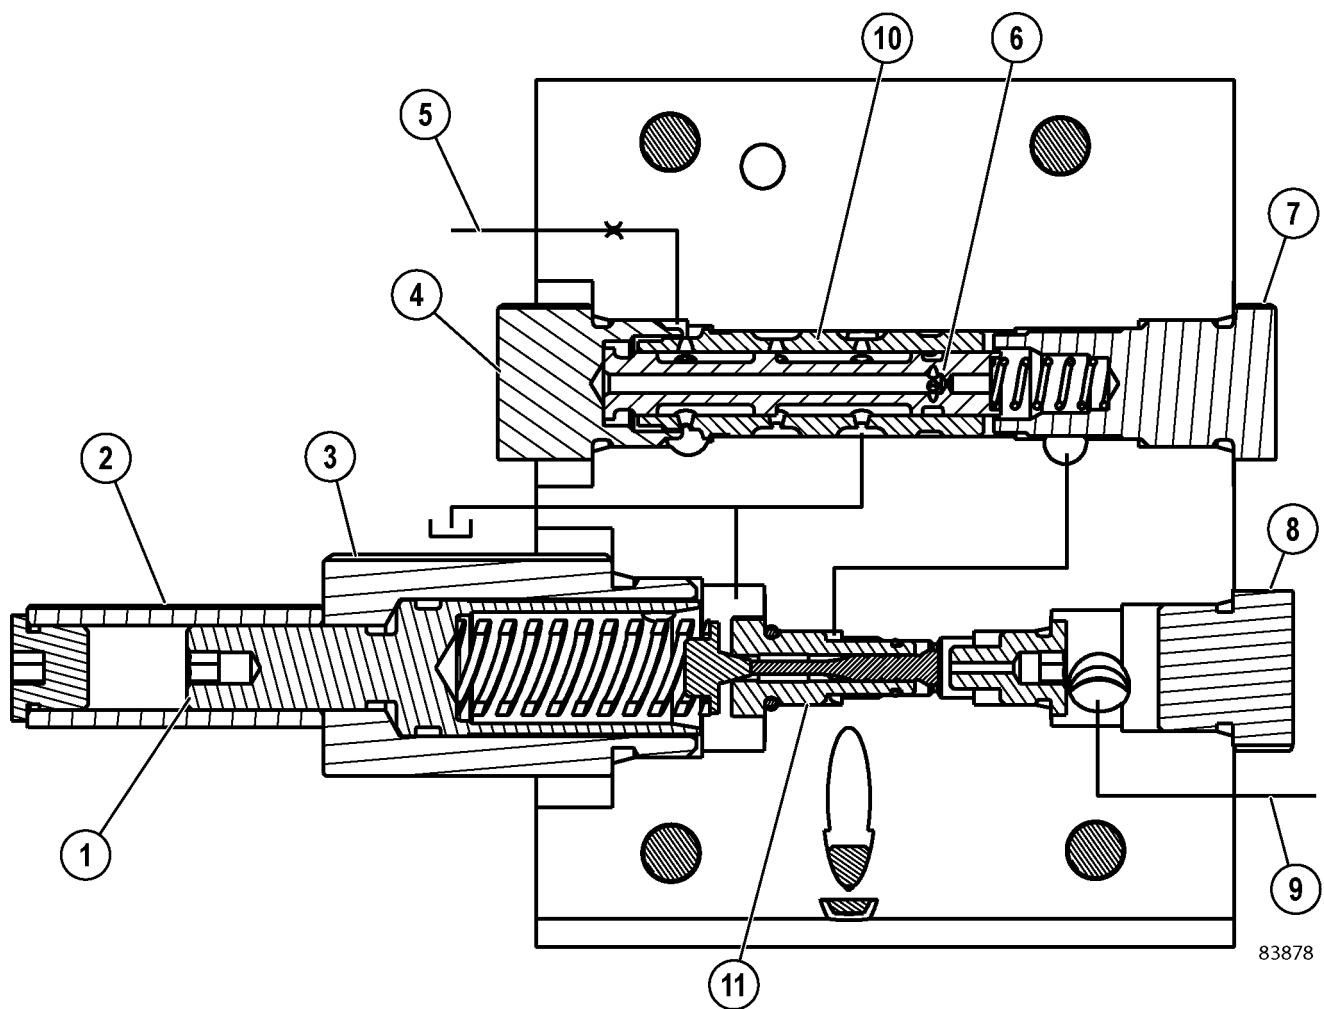

FIGURE 6-25. CONTROL VALVE ASSEMBLY
1. Use a 7/8" wrench to remove cap (7, Figure 6-25) and spring opposite the control block pressure adjustment.
2. Use a 7/8" wrench to remove cap (4). Remove valve spool (6).